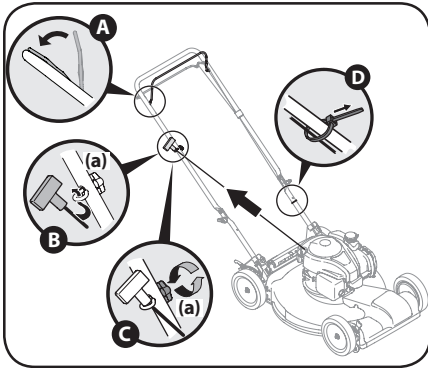

Figure 2-6
- The rope guide is attached to the right side of the upper handle. Loosen the wing knob (a) which secures the rope guide. See Figure 2-6.